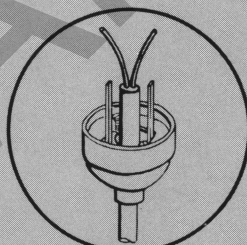

Fig. 3
3. Clip and separate the cord. (Fig. 3).